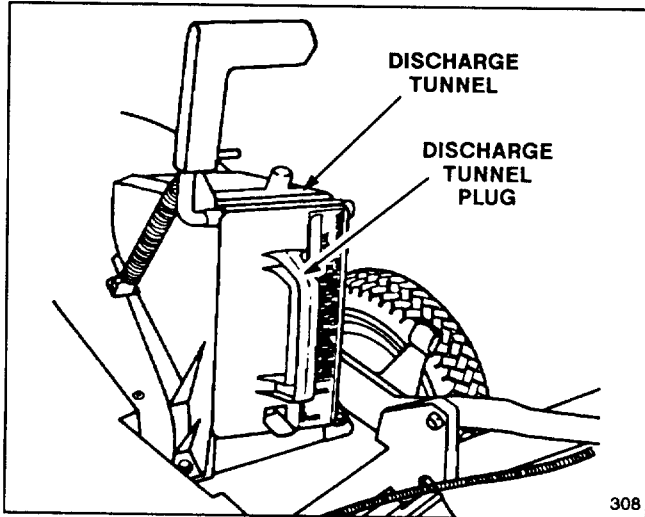

Figure 27
1. Rear Bagging Kit, Model 59174—Install discharge tunnel and rear mounting grass bag to convert Recycler® mower to a rear bagging mower (Fig. 27). Includes discharge tunnel plug.